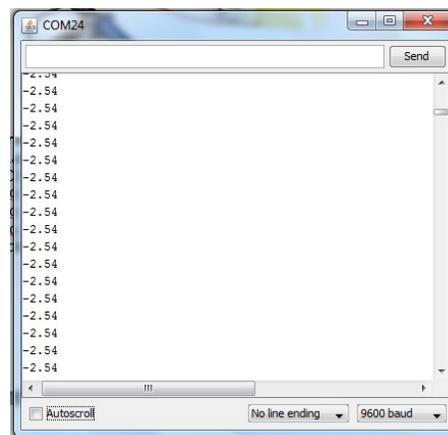

Figure 5: Serial window
- On the Arduino IDE Tools, select Serial Monitor, you should see the window shown on Figure 5